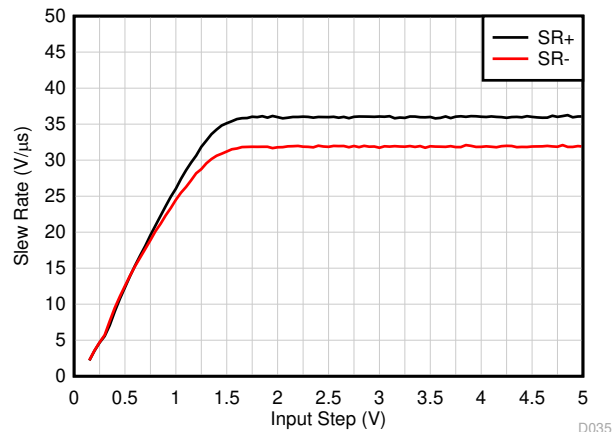

Figure 5-11. Slew Rate vs Input Step Voltage
- (3) See Figure 5-11 for more information.